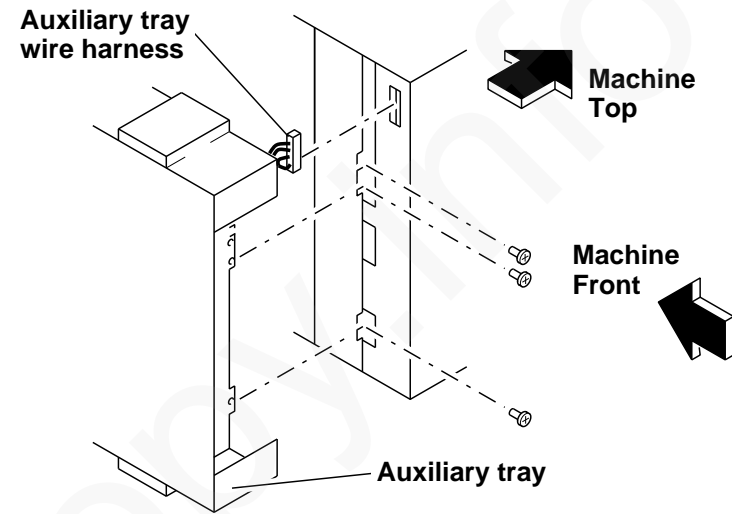

Figure 1. Auxiliary tray installation, rear screws
5. Insert (do not tighten) the three rear mounting screws on the auxiliary tray assembly (Figure 1). Leave the screws loose enough for the brackets on the terminal to slide through.